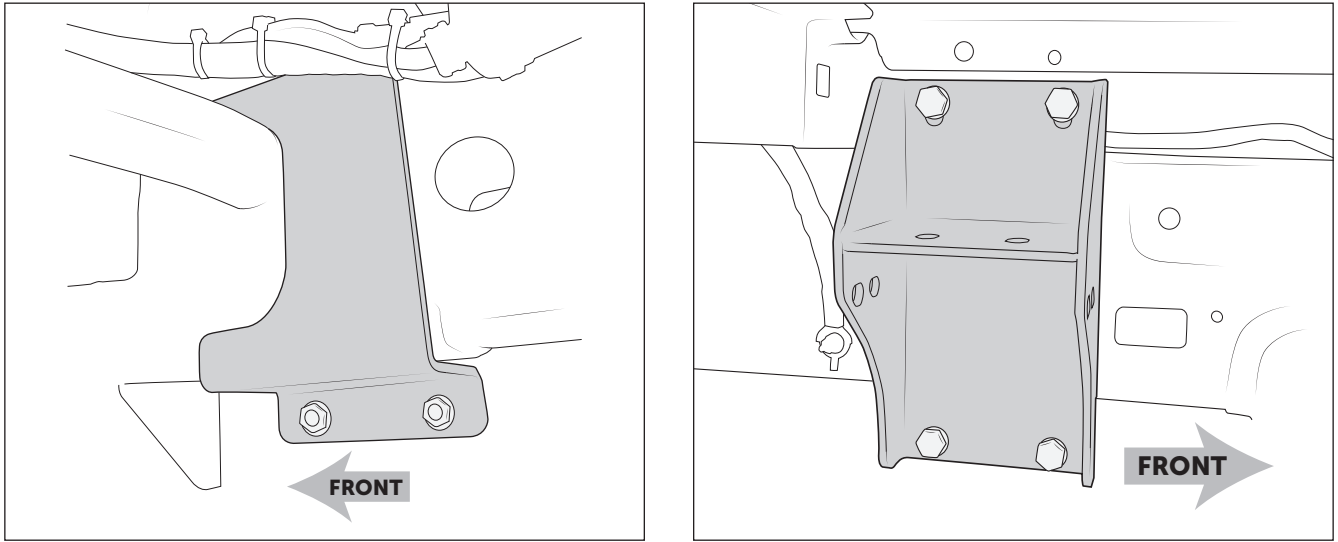

Figure 32 Left: Inboard Bracket Right: Outboard Bracket
3. Install the two piece frame bracket around the frame rail. Use four supplied M10x25 bolts, washers, and flange nuts to secure. Leave loose at this time (fig. 32: 2019+ shown).
- Torque AEV Frame Rail bracket nuts (fig. 32) to **43 lb-ft.**